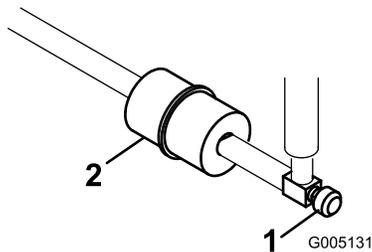

Figure 41
An in-line filter is incorporated into the fuel line between the fuel tank and carburetor (Figure 41).
1. Close the fuel-shutoff valve, loosen the hose clamp on the carburetor side of filter, and remove the fuel line from the filter (Figure 41).
2. Place a drain pan under the filter, loosen the remaining hose clamp and remove the filter (Figure 41).